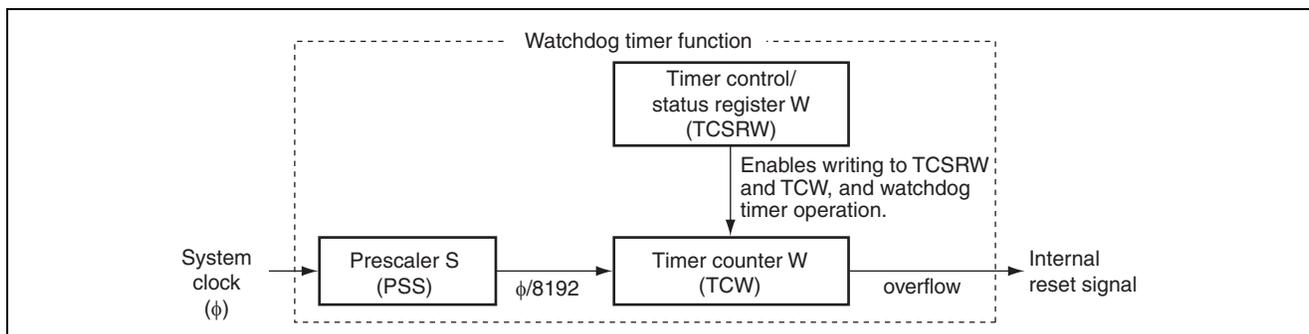

**Figure 1.1 Example of Connecting Switch to  $\overline{\text{IRQ0}}$  Input Pin**
7. Figure 1.1 shows an example of connecting a switch to the  $\overline{\text{IRQ0}}$  input pin.